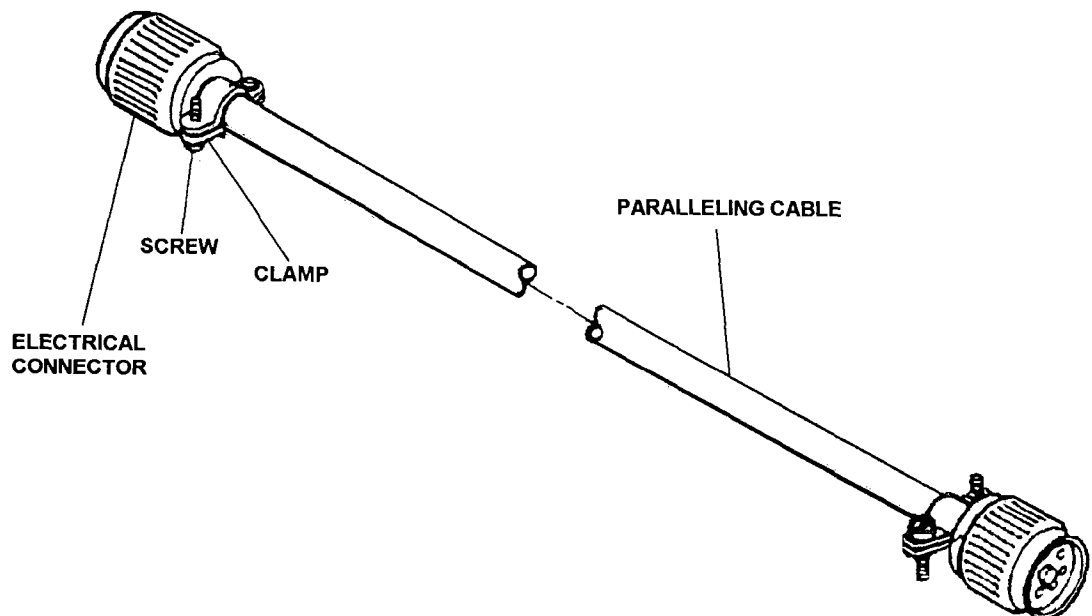

Figure 4-54. Repair of Paralleling Cable
- (1) Clean paralleling cable (Figure 4-54) with filtered compressed air and an electrician's brush or wipe with a clean, lint-free cloth lightly moistened with an approved solvent.
- (2) Visually inspect paralleling cable for chafing, deterioration, and other damage.
- (3) Check electrical connectors for bent or broken pins, stripped or damaged threads, cracks, corrosion and other damage.
- (1) Loosen saddle clamp screws (Figure 4-54).
- (2) Tag wires and unsolder connections.
- (3) Install replacement parts and solder connections.
- (4) Lighten saddle clamp screws.